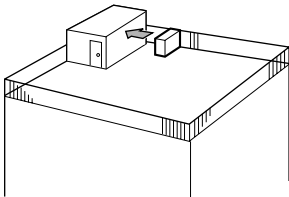

Fig. 3-2
- ① Face the air outlet towards the nearest available wall about 50 cm away from the wall. (Fig. 3-2)